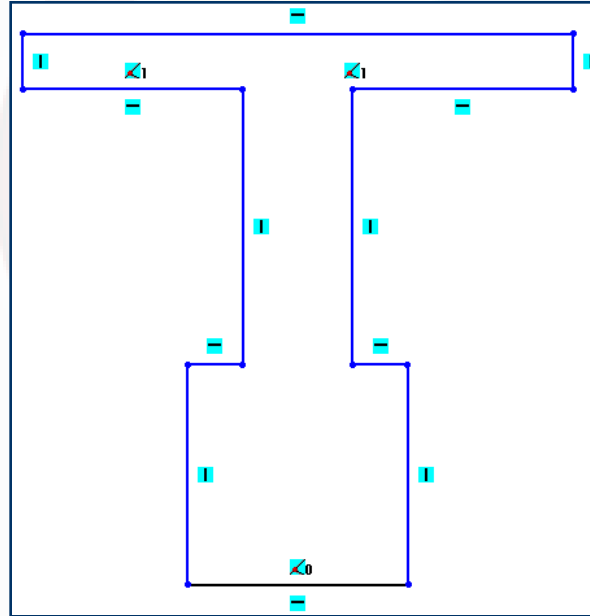

Figure 60 Final sketch for Tutorial 1
4. Draw the sketch of the model using the **Line** tool, refer to **Figure 60**.